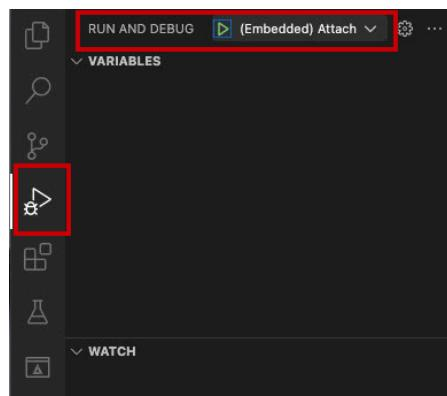

Figure 38. Start debugger
- Start the debugger by clicking on the play button  (make sure that the "(Embedded) Attach" option is selected). You can find this button near the top of the window (see Figure 38).